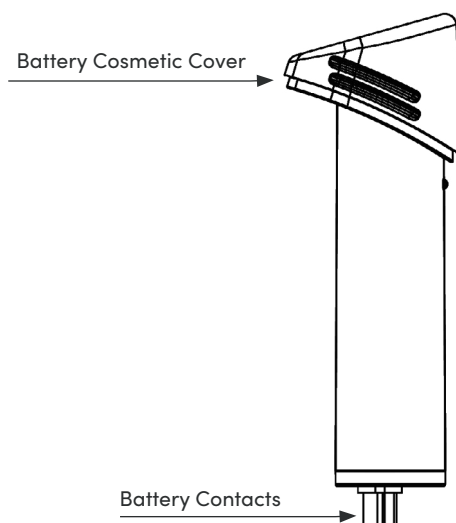

FIGURE 11: Proper Orientation of the Battery for Decontamination and Cleaning
- c. Decontaminate one Battery at a time with the connectors facing down (see Figure 11). Use a soft bristle brush, non-linting cloth, or suitable alternative soaked in an enzymatic cleaner to gently scrub the exterior of each Battery. Pay close attention to the battery end cap or any areas where soil may have accumulated. If necessary, gently flush difficult-to-access or heavily soiled areas with additional enzymatic cleaner. Repeat until all Batteries have been decontaminated.